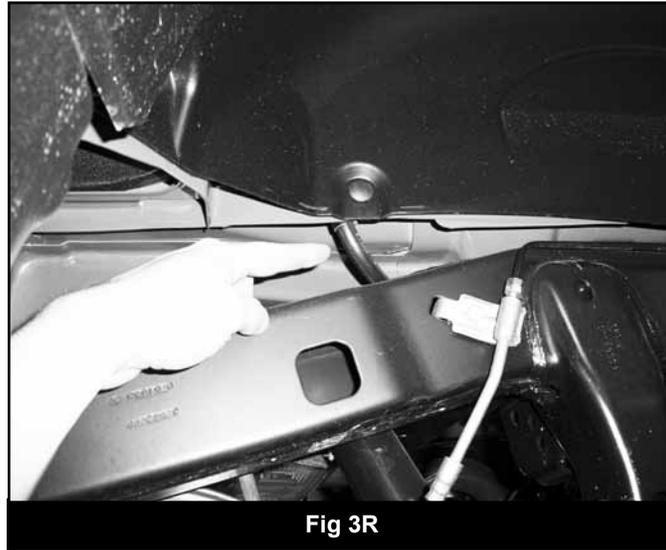

Fig 3R
10. Disconnect the axle breather tube from the plastics retainer (Fig 3R) at the body (passenger's side inner fender). Also, free the tube from the frame by releasing the metal clip. The clip should remain on the tube.